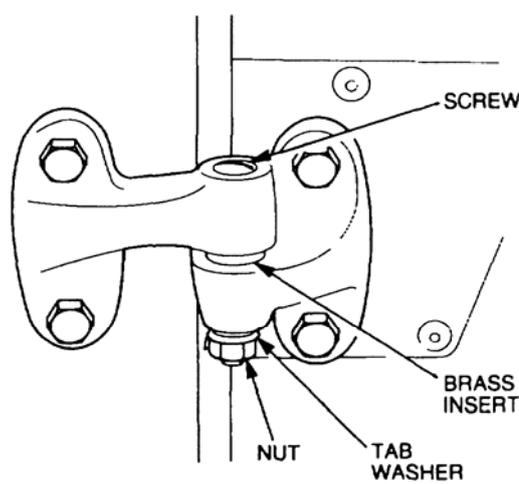

Figure 37 Rear Door Removal
- d. Support the door and remove the screws, tabs washers and nuts securing the hinge valves together (refer Figure 37).
- Install the screws, tab washers and nuts (refer Figure 37).